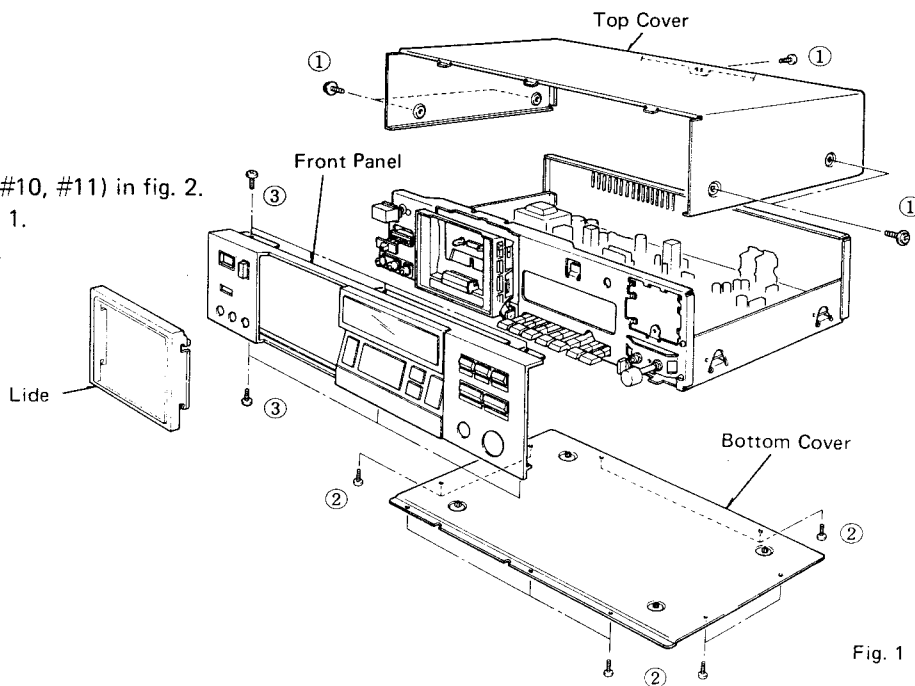

Fig. 1
Remove 5 screws ( ① ) in fig. 1.
Remove 9 screws ( ② ) in fig. 1.
c. Remove 6 screws ( ③ ) in fig. 1.